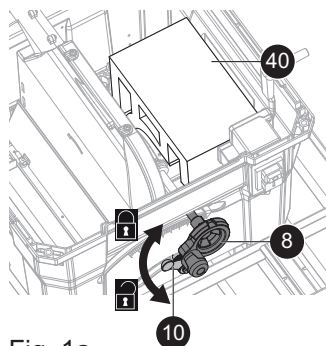

Fig. 1a
- > Place the table saw assembly upside down on the protective material. Unlock the bevel locking handle [10] anti-clockwise, turn the bevel adjusting handwheel [8] anti-clockwise to tilt the motor and remove the polyfoam [40] carefully. Lock the bevel locking handle [10] clockwise. (Fig. 1a)